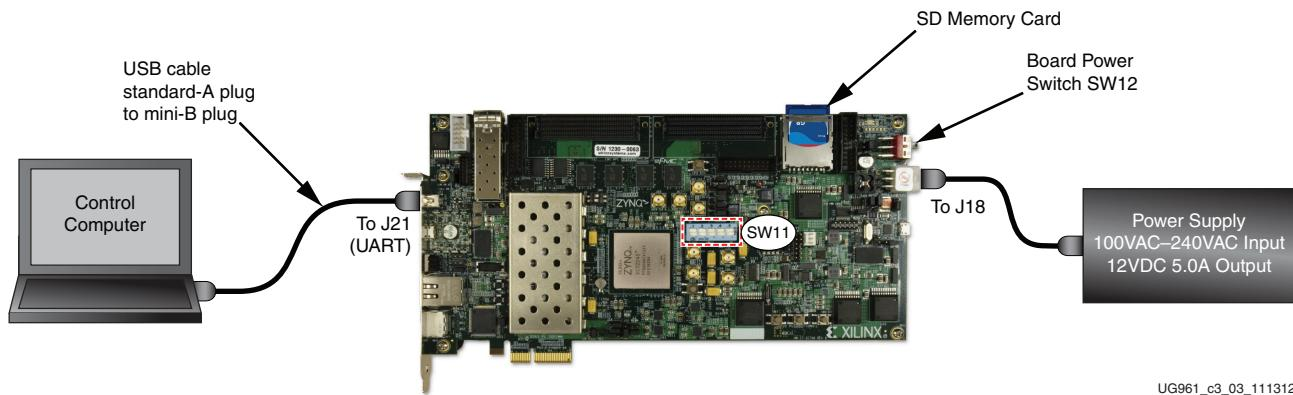

Figure 3-3: ZC706 Board Programming Setup
3. Verify the SD card is plugged into receptacle J30 as shown in Figure 3-3.
4. Connect the ZC706 board to the control computer and power supply as shown in Figure 3-3.